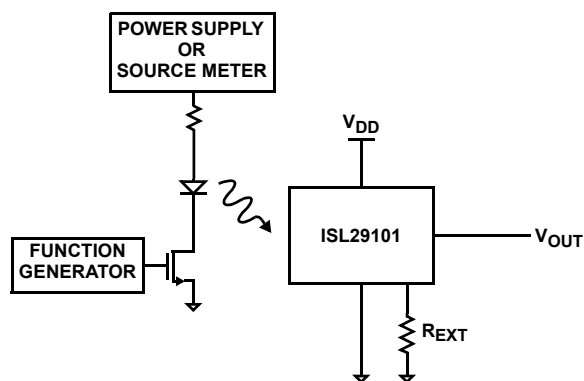

FIGURE 1. TEST CIRCUIT FOR RISE/FALL TIME MEASUREMENT
- Switching time measurement is based on Figures 1 and 2.